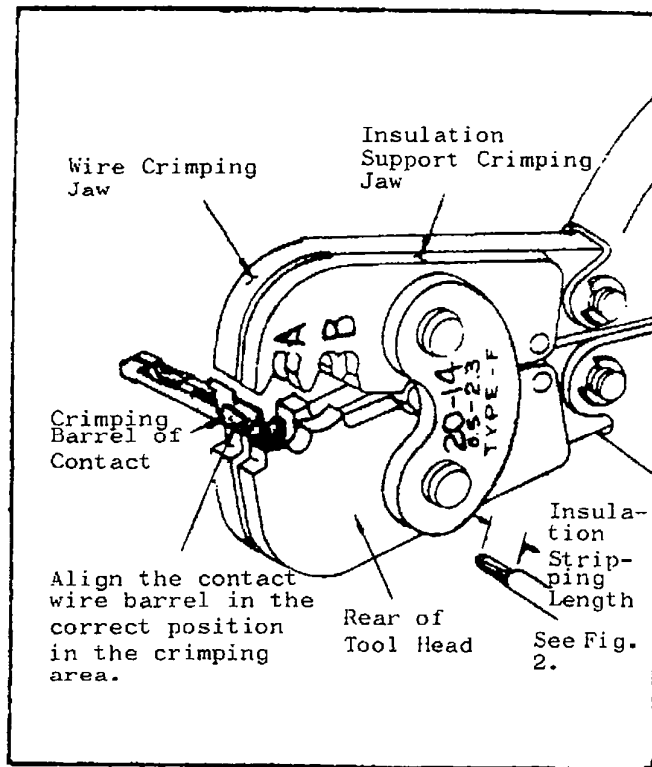

Fig. 3
- (b) Insert the contact into the crimping area as shown in Fig. 3. Cautions must be taken care that the wire barrel and insulation barrel of the contact are placed on the right position and direction in the area respectively.